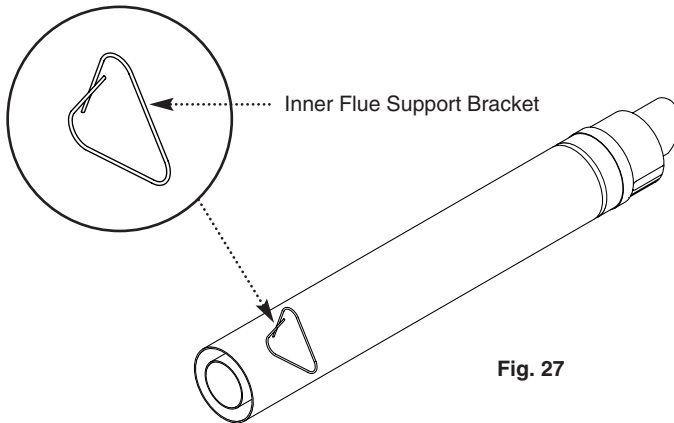

Fig. 27
7. Take the inner flue support bracket (if not already fitted) and engage it over the flue duct. This will centralise the flue and air ducts, and ease assembly (Fig. 27).